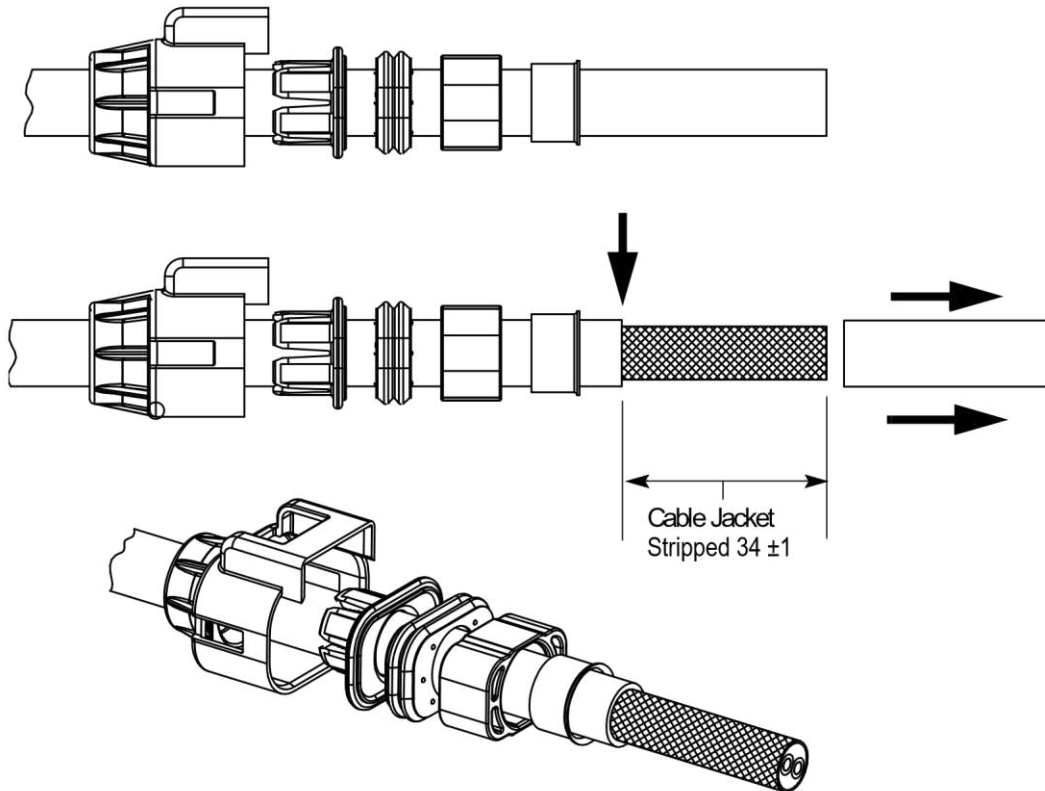

Figure 4
- Strip and remove the outer cable jacket and separator (if present) from the end, exposing the braided cable shield as shown in Figure 4.